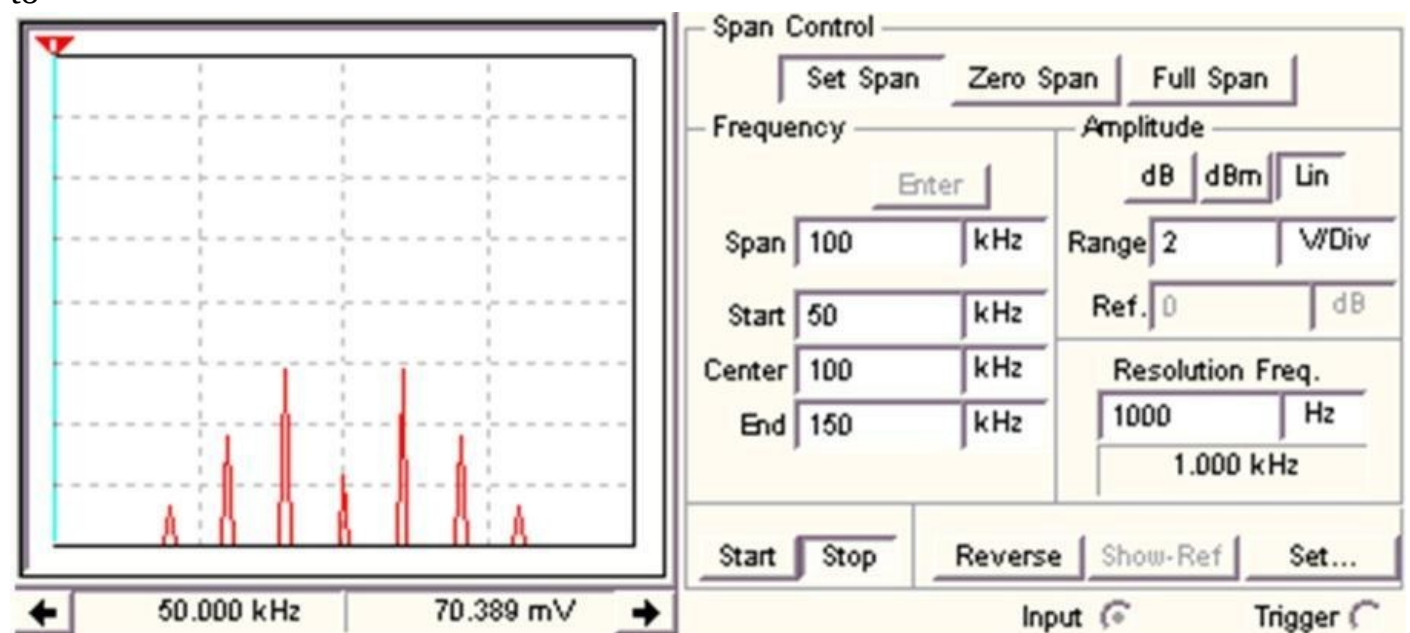

Figure 6.14: Spectrum analyzer display window
1) From the spectrum analyzer display shown in figure 6.14, determine approximately total bandwidth needed transmit such a signal. Span: The difference in frequency between far left to right of the display window. Start, Center, and End are the absolute starting (far left), center (middle), and ending (far right) frequencies in the display window. the to